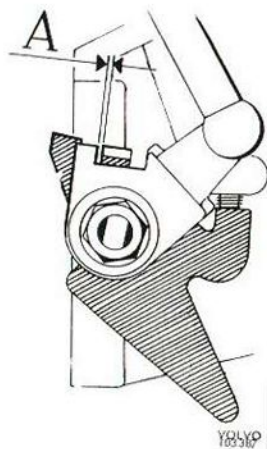

Fig. 2-117. Setting the control
5. Adjust the link rod. With the control against its stop on the manifold bracket, the link rod should be adjusted so that there is a clearance of about 0.1 mm (0.004") between the lever and the flange of the primary throttle spindle. See Fig. 2-117.
- Adjust the link rods. With the control against its stop on the manifold bracket, the link rods should be adjusted so that there is a clearance of about 0.1 mm (0.004") between the lever and the primary throttle spindle flange. See Fig. 2-117.
8. Adjust the link rods. With the control against its stop on the manifold bracket, the link rods should be adjusted so that there is a clearance of about 0.1 mm (0.004") between the lever and the flange of the primary throttle spindle. See Fig. 2-117.